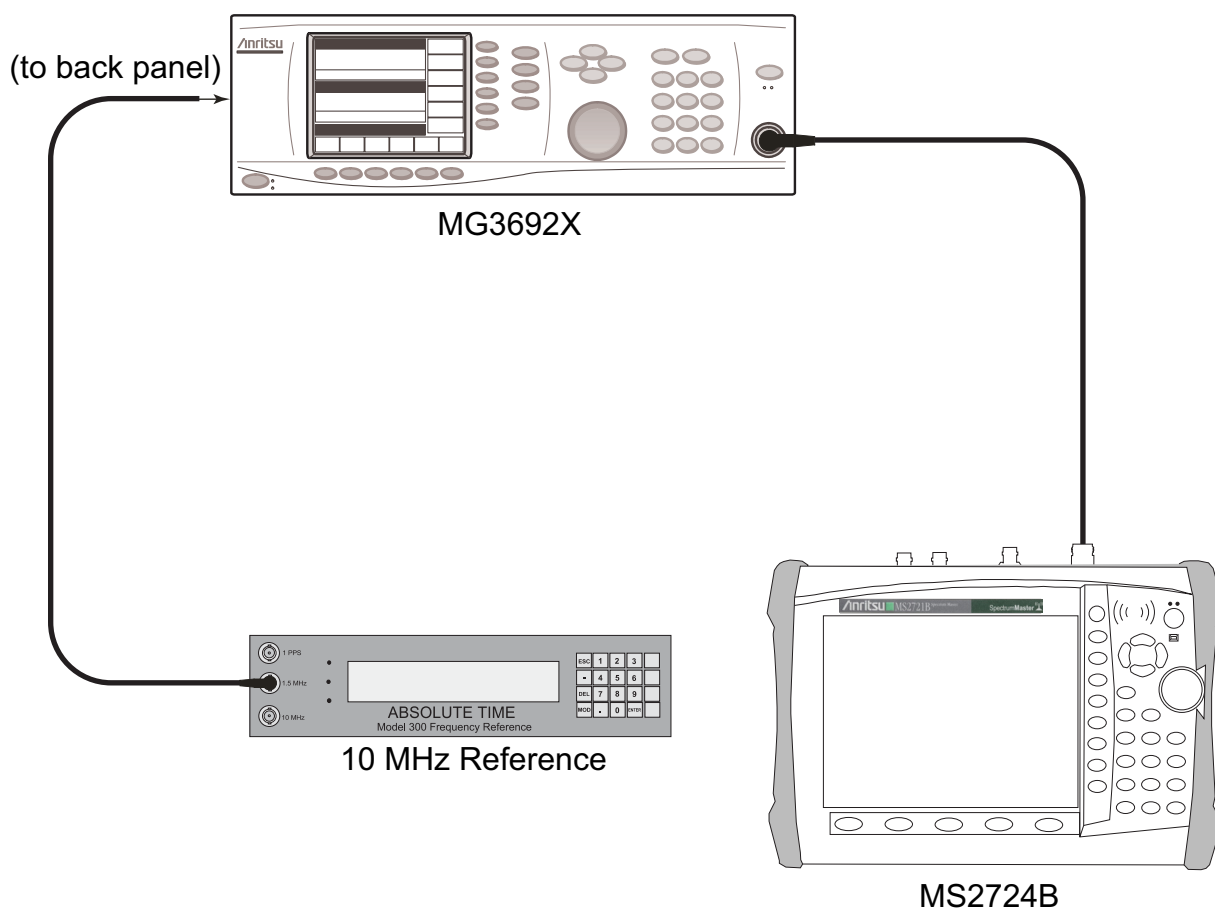

Figure 2-1. Spectrum Analyzer Frequency Accuracy – Test Setup
1. Connect the external 10 MHz Reference to the Anritsu MG3692x Synthesized Signal Generator, as shown in Figure 2-1.
11. Press the **Shift** key and then press the **Trace (5)** key.